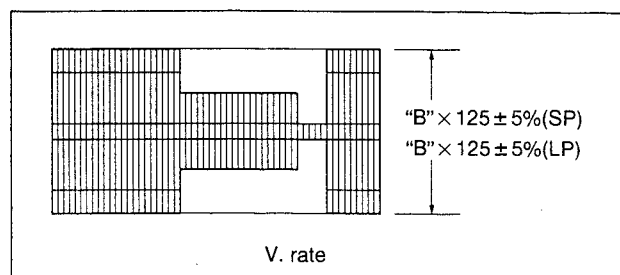

Fig. 3-3-3 SP/LP REC colour level
- (1) Connect the adjustment tool (H3) to the measuring point (D1).
- (2) Apply the external trigger signal to D.FF (E) to observe the PB colour waveform at the measuring point (D2).
- (3) Play back the SP colour bar signal of the alignment tape (A1).
- (4) Press the channel buttons (+, -) simultaneously to enter the manual tracking mode. (This also brings tracking to the centre.)
- (5) Adjust tracking by pressing the channel buttons (+, -) so that the PB colour waveform becomes maximum. Make a note of the higher PB colour level as "B" at this time.
- (6) Record the colour bar signal (A3) in the S-VHS (B1) SP mode (B3), and play back the recorded signal.
- (7) Set the VCR to the EVR mode by transmitting the code (F1) from the Jig RCU for more than 2 seconds.
- (8) Set the EVR address to (F2) by pressing the button of the digit-key remote controller.
- (9) Adjust with the channel buttons (+, -) on the VCR (or on the remote controller) so that the higher level channel becomes the specified value (G) of the note "B" level as shown in Fig. 3-3-3. (Adjust before recording, then confirm it by playing back.)
- (10) After adjustment, record the colour bar signal (A3) then playing it back again. At this time, confirm that there is no inverting phenomenon or noise appearing on the play-back screen.
- (11) Release the EVR mode of the VCR by transmitting the code (F1) from the Jig RCU again. (When the EVR mode is released, the adjusted data is memorized.)
- (12) Repeat steps (3) to (11) in the S-VHS (B1) LP mode (B3).